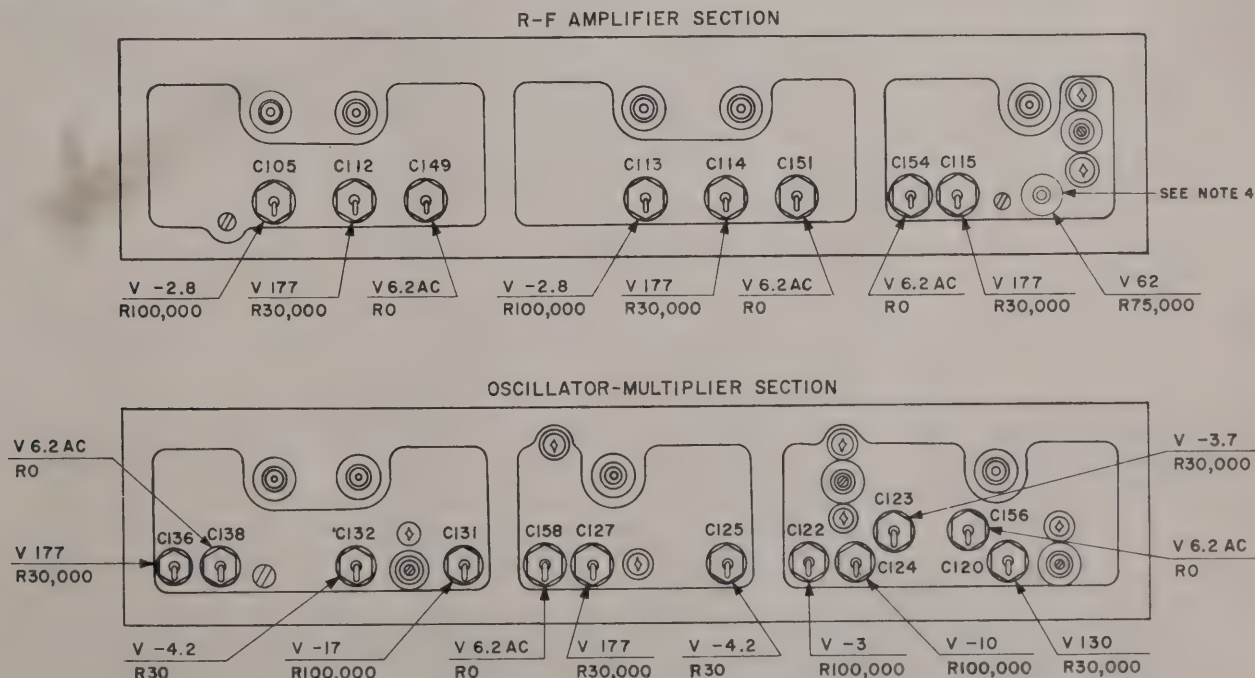

Figure 7-2. Preselector Voltage and Resistance Measurements
c. VOLTAGE AND RESISTANCE MEASUREMENTS.—The values of voltage and resistance between the pin of each tube socket and ground for the IF/AF and power supply sections are indicated in figure 7-1. Similar readings at the tube sockets of the preselector are also included in figure 7-1. Because of the physical arrangement of the preselector in the receiver, these measurements must be made from the top of each preselector tube socket after removing the tube from the socket at which the measurements are to be made. Unless otherwise specified in figure 7-1, all other tubes should remain in place. Since tube-socket voltages obtained in that manner are not indicative of operating conditions, the actual operating voltages (and resistances) at other pertinent test points accessible on the preselector assembly are shown in figure 7-2. Similar values, measured at test jacks and from terminal-board terminals to ground and/or other significant points, are given in table 7-3.